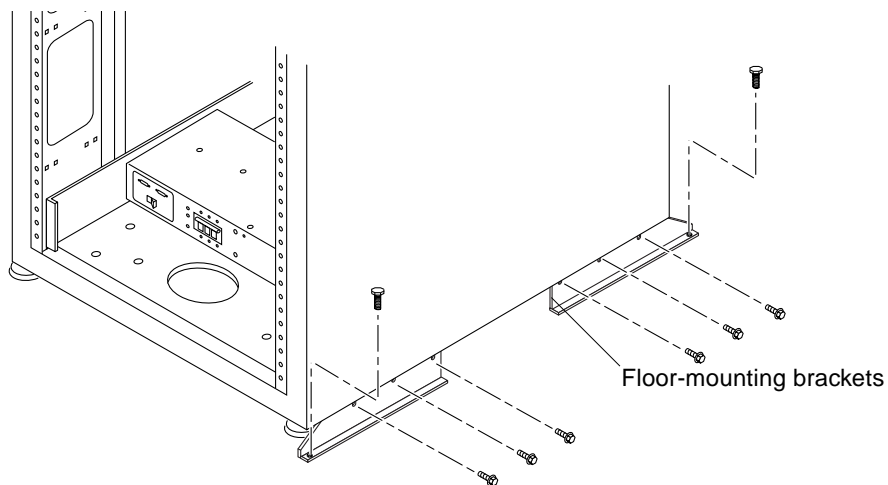

FIGURE 3-6 Attaching the Floor-mounting Brackets
- 2. Using a 7/16-inch wrench, attach the right floor-mounting brackets to the front and back of the system (FIGURE 3-6) with the six mounting screws just removed.**